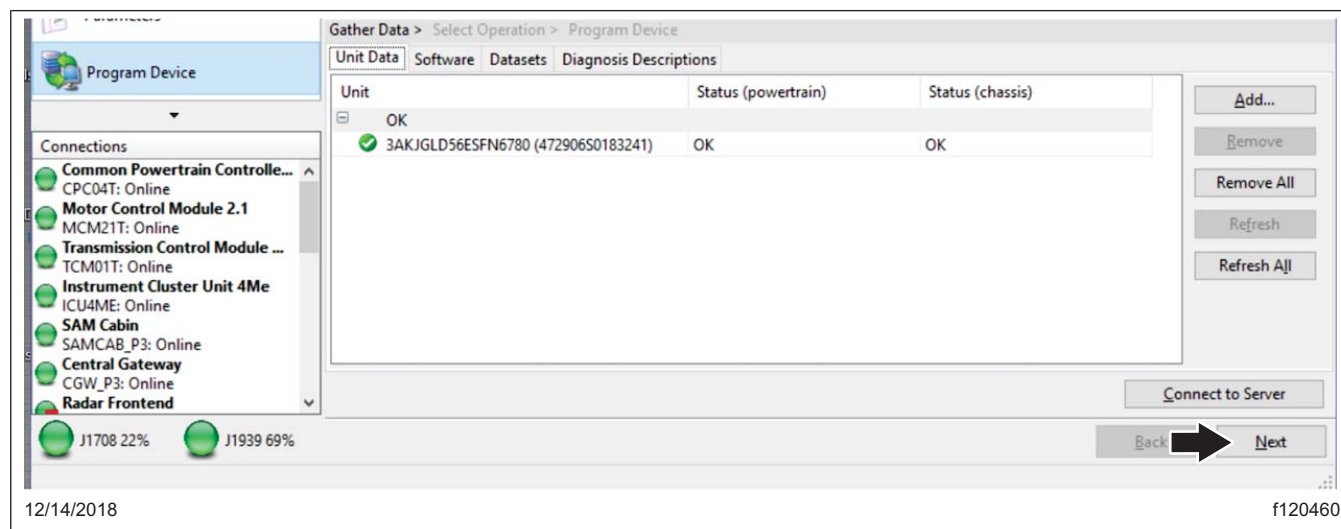

Fig. 9, Clicking Next
10. Once the data has been downloaded, click "Next." See Fig. 9.
9. Once the data has been downloaded, click "Next." See Fig. 9 on page 9.